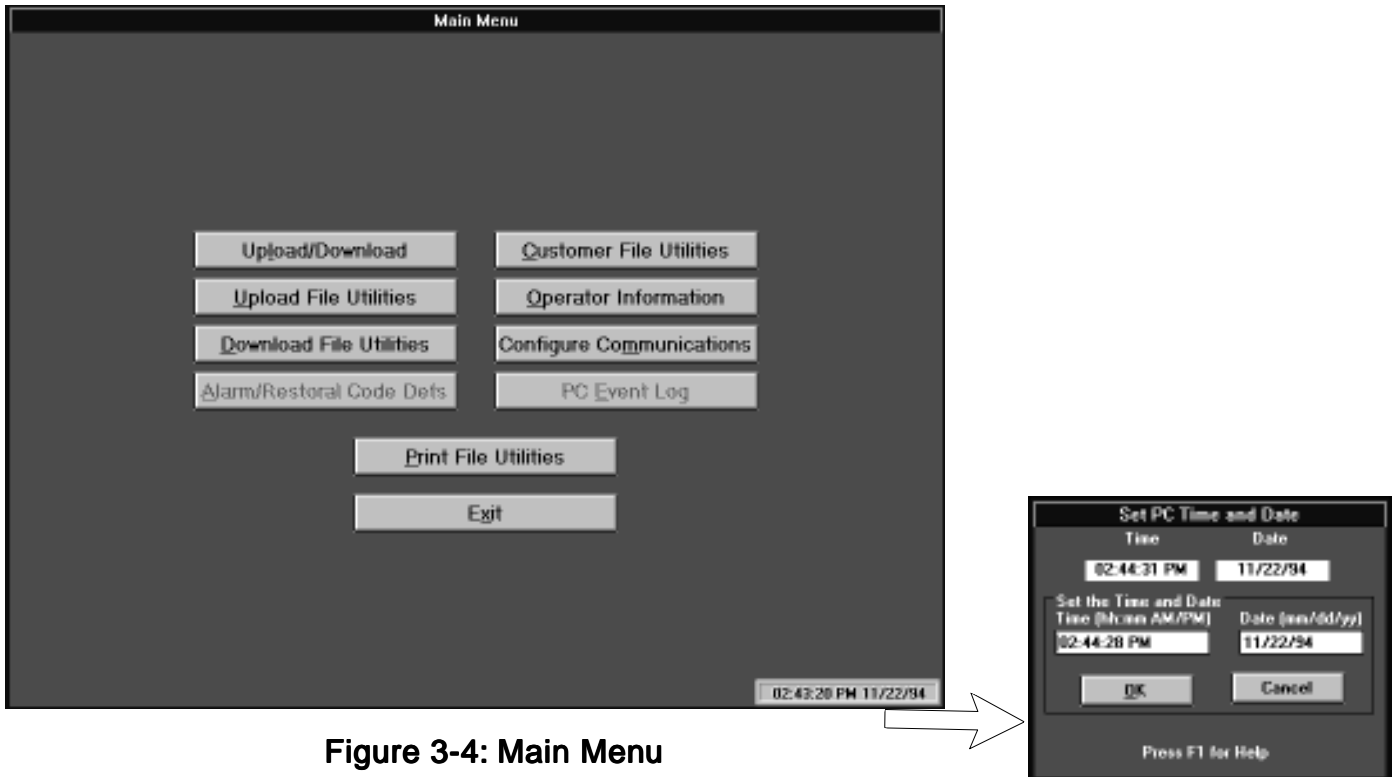

Figure 3-4: Main Menu
Following a successful Log-in, the Main Menu screen shown in Figure 3-4 will be displayed. Each menu option will be described in the sequence in which they would normally be used for an initial MS-5024UD panel upload or download. Note that pressing ALT + K or double clicking on the time/date block in the bottom right corner of this screen will display a pull-down screen which may be used to change the service terminal (PC) time and date. The flashing cursor will be in the time field. Type the new time or Tab the cursor to the date field and type the new date. Press ALT + O or click on the OK button to update.